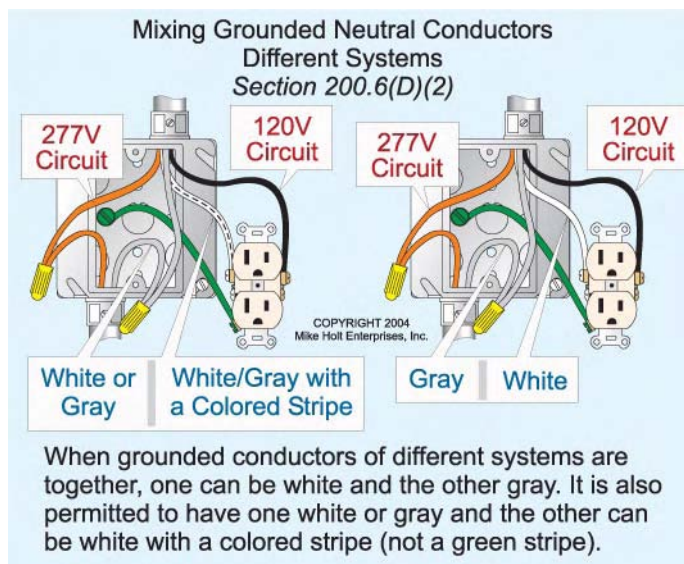

Figure 200-9
- (2) The grounded neutral conductor of the other system must have a different outer covering conforming to either 200.6(A) or 200.6(B). **Figure 200-9**